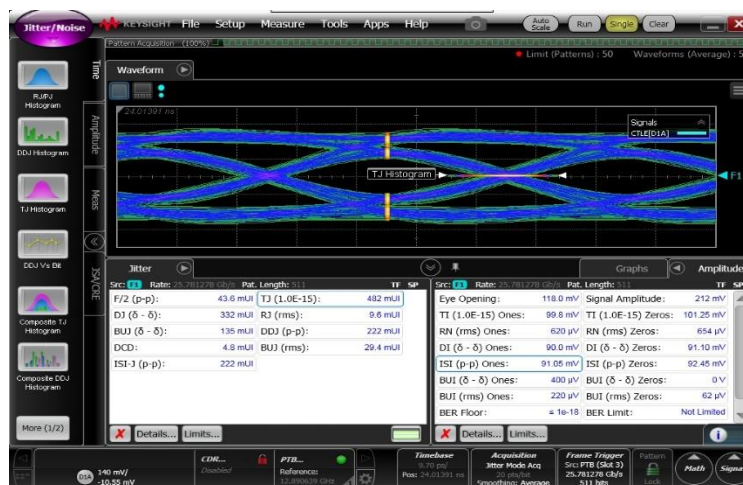

Figure 21. CDR-Enabled Calibration
5. Sample calibrated waveforms shown in Figure 21.